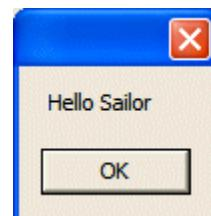

Figure 8-18. Displaying the third argument.
- 11) Click the **OK** button to dismiss this *MsgBox()*. The script now displays the third argument as illustrated in Figure 8-18.